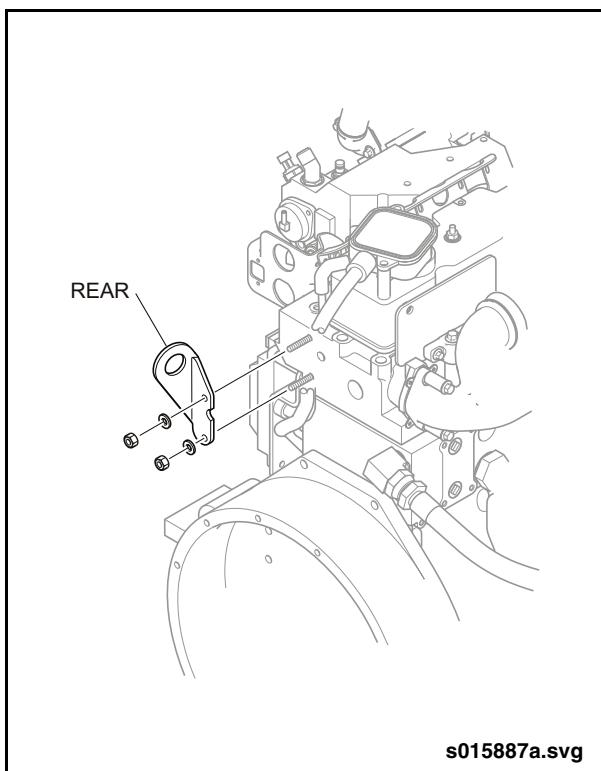

Fig. 4-9: Rear Lift Bracket
5. Temporarily replace the CAC mounting bracket with the engine rear lift bracket. Use existing hardware and torque bolts to 57 ft-lb. (77 Nm). See "Fig. 4-8: Front Lift Bracket" on page 13. See "Fig. 4-9: Rear Lift Bracket" on page 14.